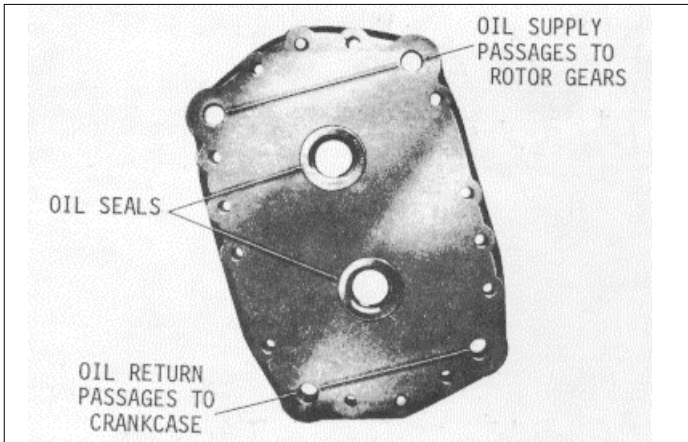

Fig. 11
- (1) Install the lip type oil seals (Fig. 11) as follows: